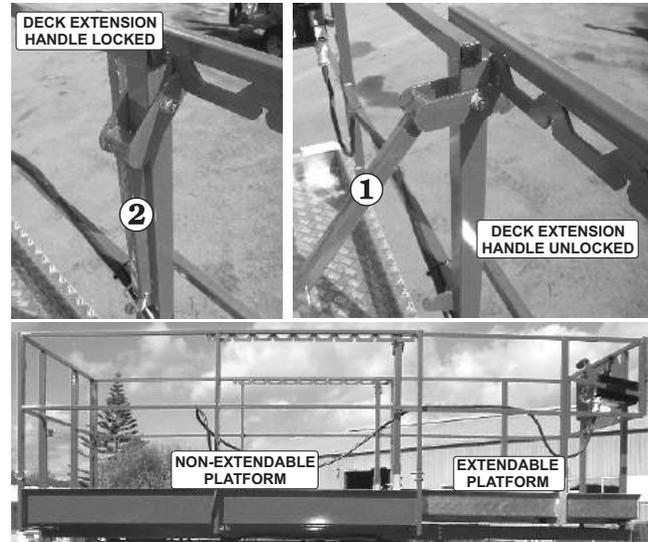

Figure 8.21
The MULTI-position extendible platform (see Figure 8.21) can be securely locked into different positions. To move it from one (1) position to the other do the following:
2. Lift up the deck extension handles (one (1) for each side of the deck) ① to unlock the deck (see Figure 8.21).
4. Lower the deck extension handles and allow the lock ② to locate (see Figure 8.21).